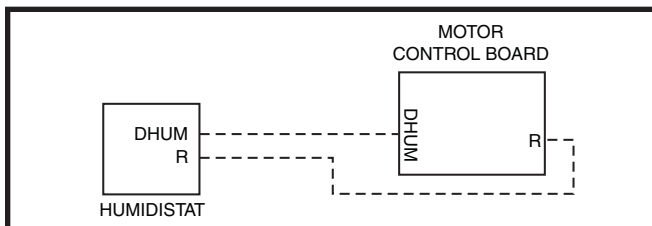

Figure 24. DHUM Wiring Configuration 7
1. If the room thermostat incorporates a humidity sensor and **DHUM** output, connect the **DHUM** on the thermostat to the **DHUM** terminal on the motor control board (Figure 24).